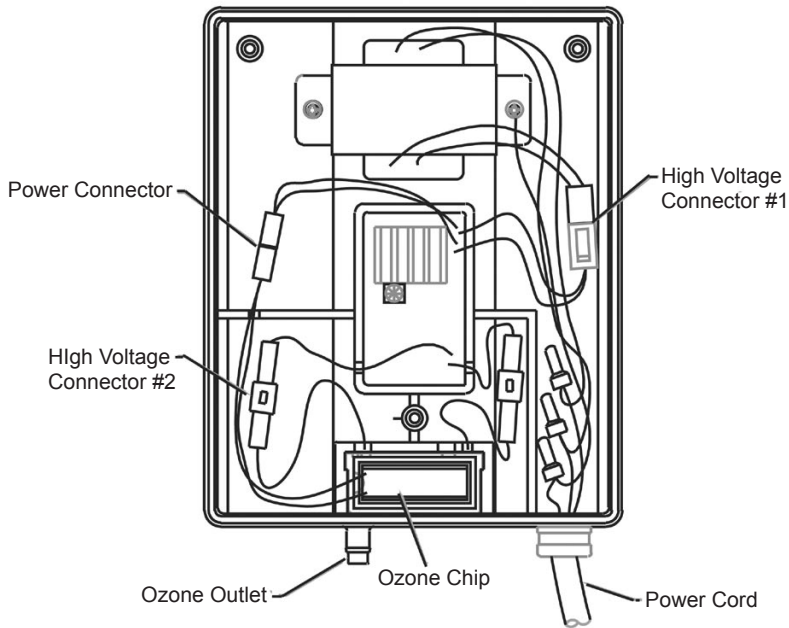

Figure 9: SpaECLIPSE/CDS-16 Ozone Chip Replacement
4. Remove the three screws from the back of the unit (see Figure 9, page 13).